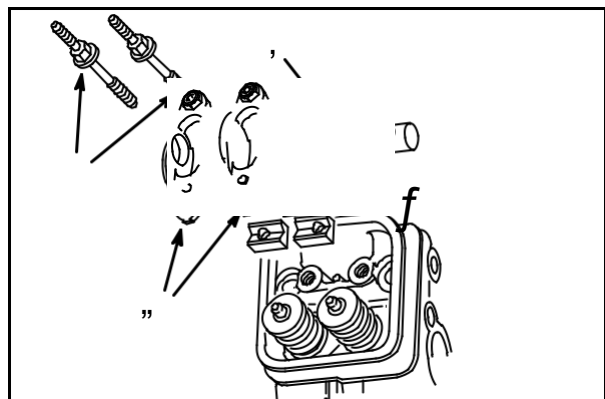

Fig. 12
NOTE: Rocker shaft support (3) holes are offset. Install with holes facing ends of rocker shaft, **Fig. 12**.
Assemble rocker arms, shaft, supports and studs (1) and install on cylinder head, **Fig. 12**.